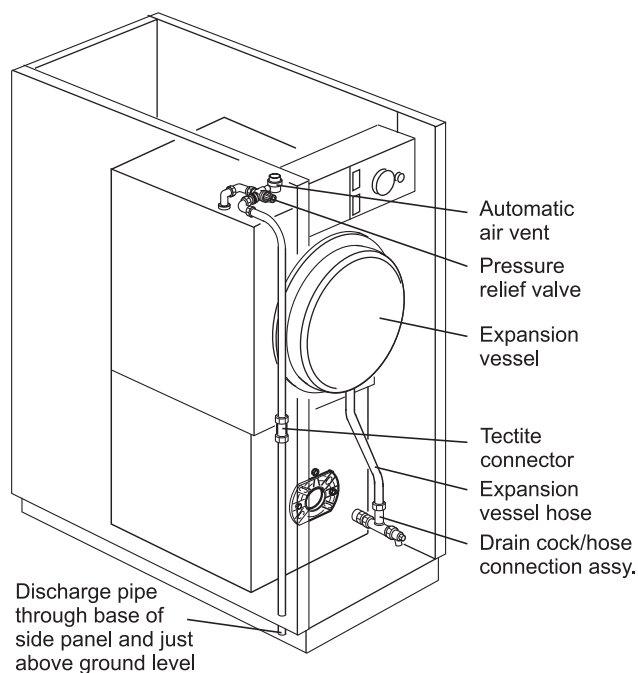

Fig. 14c
- c Re-connect the drain cock/hose connection assembly to the connector, with the hose connection pipe upwards, and tighten the union (see Fig. 14c).